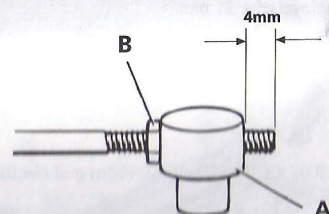

Fig. 8
- Thread the pivot (A fig.8) on to the rod until 4 mm of the rod protrudes (see fig. 8). Secure the pivot by tightening the nut (B fig. 8)
- Thread the pivot on to the rod until 4 mm of the rod protrudes (see fig. 8). Secure the pivot by tightening the nut. (B fig. 8)